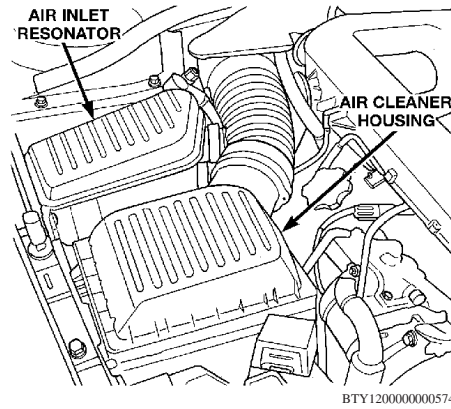

Fig. 2 Air cleaner housing removal
4. Remove air cleaner housing, **Fig. 2**.